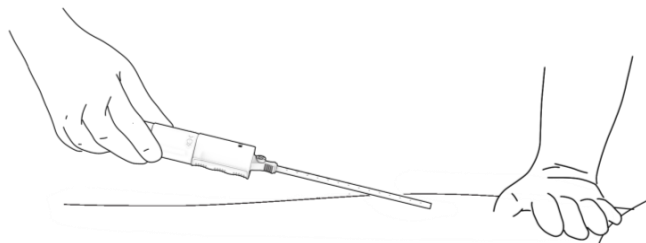

Figure 17. Removal of deployed device.
- c. Gently withdraw the delivery system from the tissue tract. Figure 17.